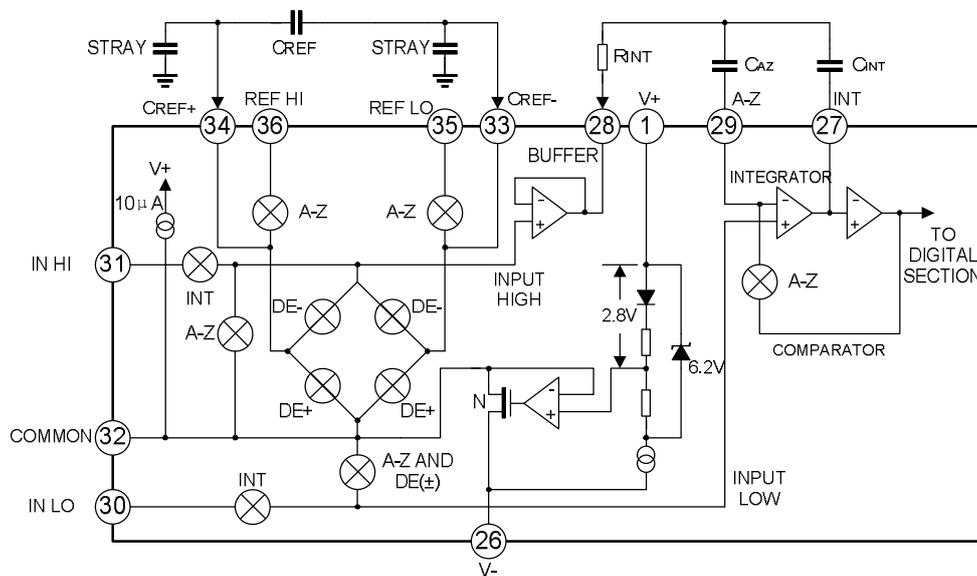

FIGURE 3. ANALOG SECTION OF SC7106 AND SC7107
Figure 3 shows the Analog Section for the SC7106 and SC7107. Each measurement cycle is divided into three phases. They are (1) auto-zero (A-Z), (2) signal integrate (INT) and (3) de-integrate (DE).